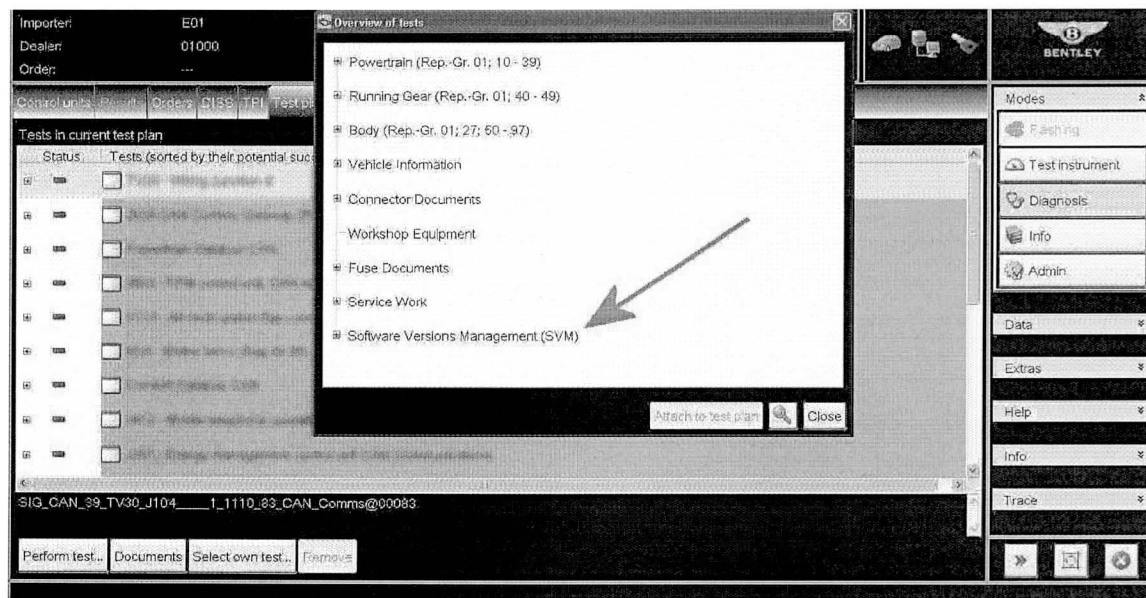
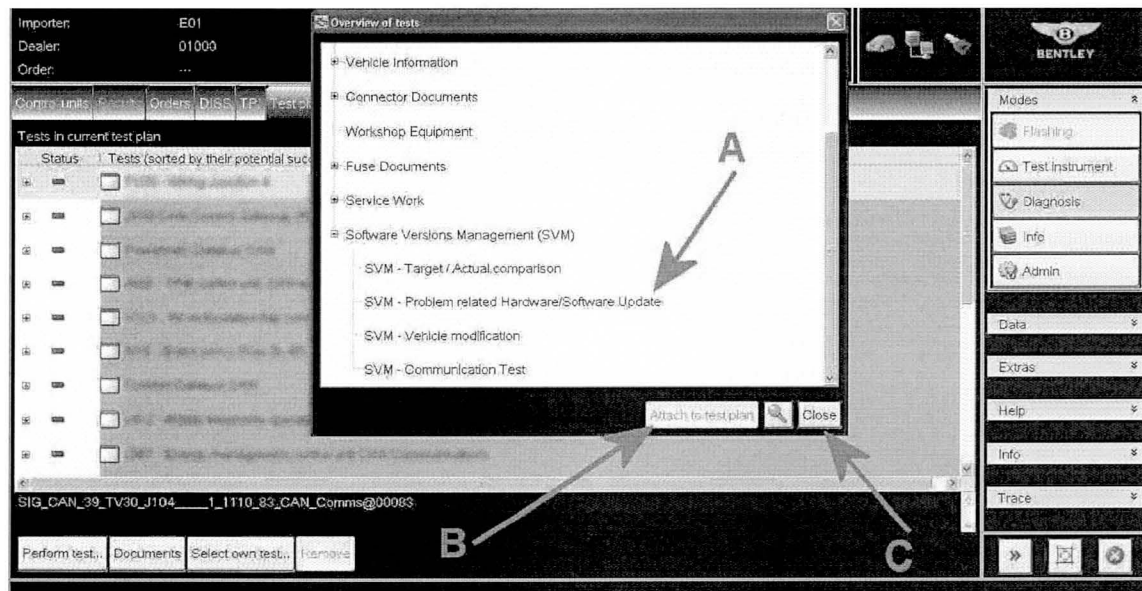

Figure 5
Figure 6
- Once Guided Fault Finding is complete, Select - Test plan as shown in Figure 4 point A - Select own test as shown in Figure 4 point B, (the overview of tests screen will now appear as shown in Figure 5)
- Referring to Figure 5 (Overview of tests screen) select + Software Version Management (SVM) a drop down box will now appear as shown in Figure 6
- Referring to Figure 6 - Select SVM - Problem related Hardware/Software Update (point A)